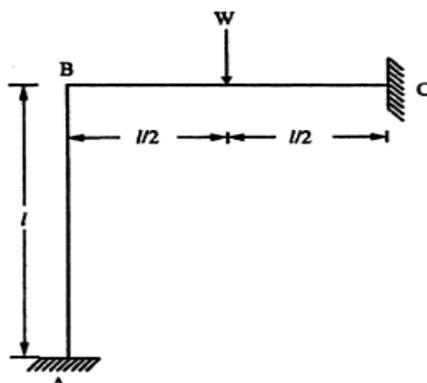

Fig.4
- b) Analyse the plane frame shown in Fig.4 by stiffness method.